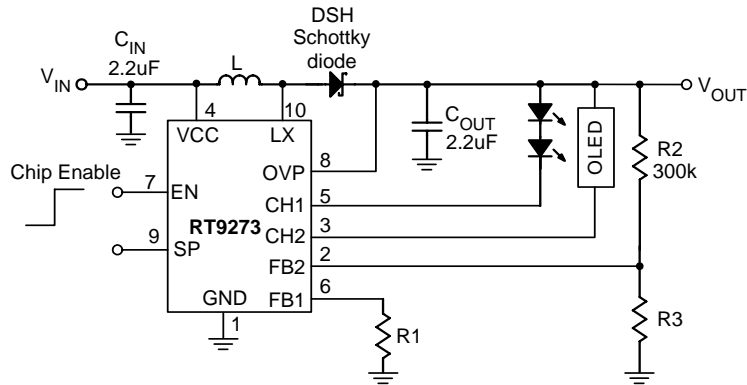

Figure 1. Dual panel 2LEDs + OLED mobile phone power solution
1. Figure 1 is for PMOLED power ground connected to CH2 but not for OLED driver digital ground.